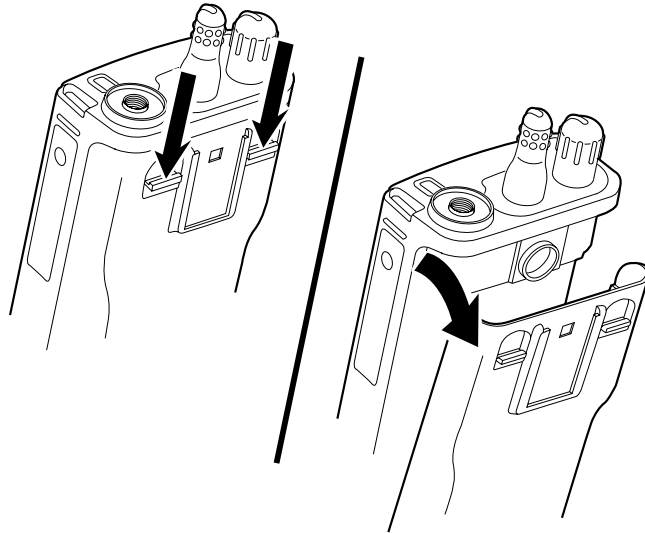

Figure 4 Removing the Battery
2. Remove the battery (see Figure 4).